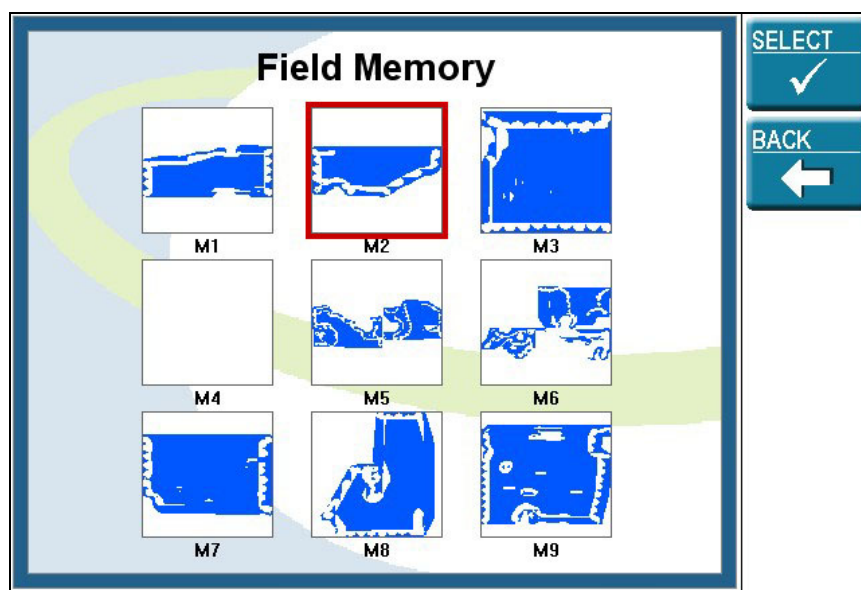

Figure 4-2: Field Memory Window
- 3) If the Virtual Memory slot has a thick red line around it as shown around M2 in Figure 4-2, then it has been selected.